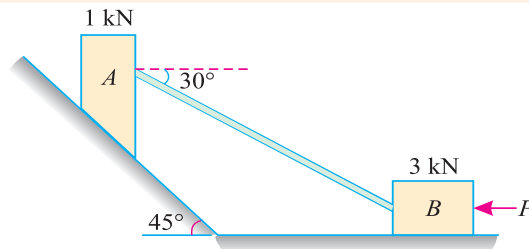

Fig. 8.21.
**Example 8.14.** A block (A) weighing 1 kN rests on a rough inclined plane whose inclination to the horizontal is  $45^\circ$ . This block is connected to another block (B) weighing 3 kN rests on a rough horizontal plane by a weightless rigid bar inclined at an angle of  $30^\circ$  to the horizontal as shown in Fig. 8.21.